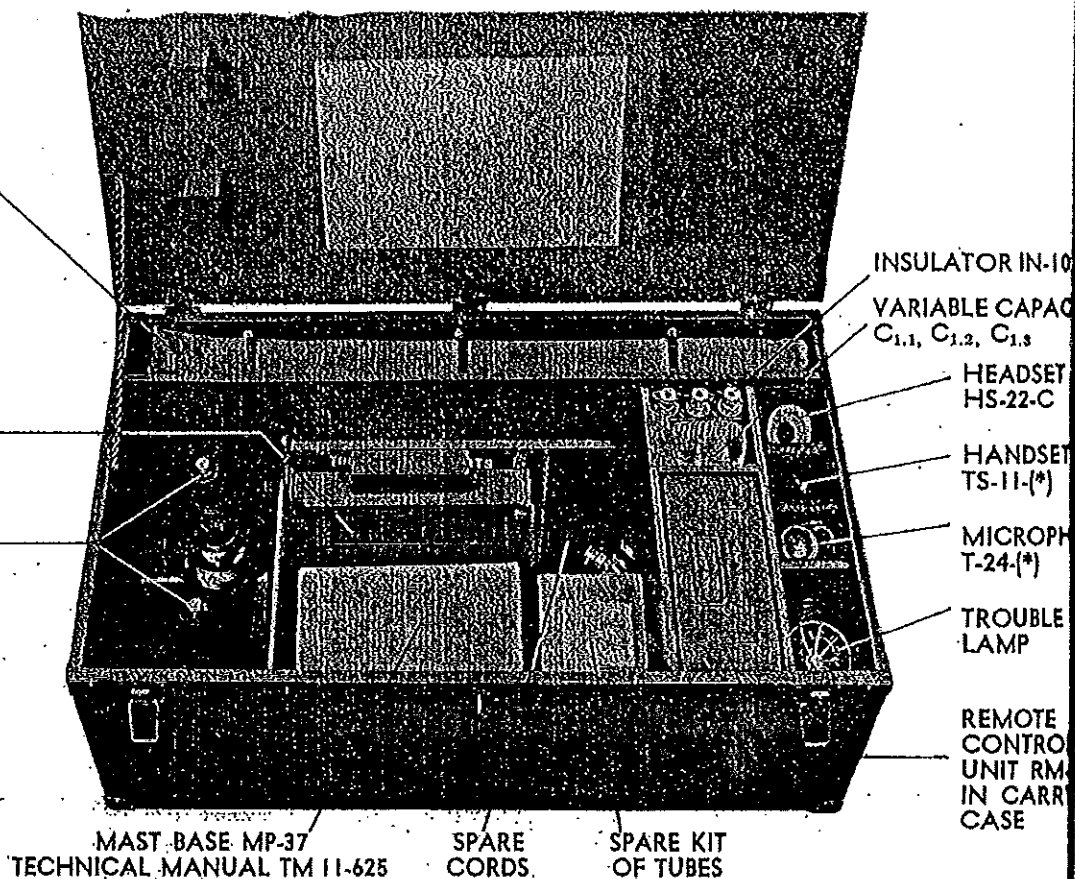

Fig. 6 - Chest CH-73-A, With Tray Removed.
- (7) The fifteen foot length of Wire W-128 is used in vehicular installations to connect the antenna mast base to the antenna terminal on the receiver and transmitter.
- (8) Handset TS-11-(*). is used with Remote Control Unit RM-21-(*). for listening to the receiver and for voice-modulating the transmitter.
- (9) Headset HS-22-C (in Radio Set SCR-543-A) is used with Microphone T-24-(*). in place of Handset TS-11-(*). when so desired.
- (10) Headset HS-30-(*). (in Radio Set SCR-543-B, C) connected to Cord CD-605 or to Cord CD-307-A with Cord CD-604 is used with Microphone T-24-(*). in place of Handset TS-11-(*). when so desired.
- (11) Microphone T-24-(*). is used with Headset HS-30-(*). connected to Cord CD-605 or Headset HS-22-C in place of Handset TS-11-(*). when so desired.
- (12) Counterpoise CP-15-(*). replaces the use of a direct ground connection. It consists of 8 radial wires connected to a central point with a connecting lead for attaching to the radio set ground.
c. Chest CH-73-(*).—(See Figures 6 and 7).—
- (1) This chest is for storage of all component units or accessories not stored in Chests CH-131-(*), CH-132-(*). or CH-133-(*). together with service tools and spare parts. Chest CH-73-(*). is made of heavy plywood and has a hinged lid to get at the interior. A removable wooden tray as well as several compartments provide for storage of individual items, keeping them separated so that removal of one item will not cause the others to be loosened. Contained in this chest are: